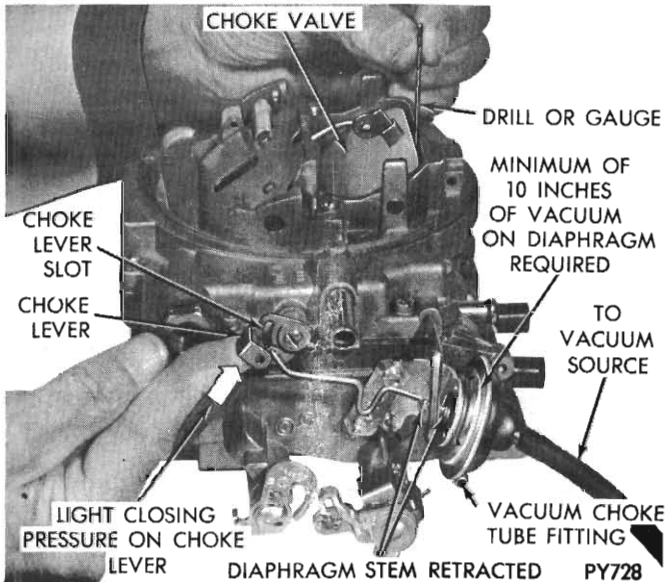

Fig. 12—Checking Choke Vacuum Kick Setting
(1) If adjustment is to be made with engine running, disconnect fast idle linkage to allow choke to close to kick position with engine at curb idle. If an auxiliary vacuum source is to be used, open throttle valves (engine not running) and move choke valve to closed position. Release throttle first, then release choke.
(2) When using an auxiliary vacuum source, disconnect vacuum hose from carburettor and connect it to hose from vacuum supply with a small length of tube to act as a fitting. Removal of hose from diaphragm may require forces which damage the system. Apply a vacuum of 10 or more inches.
(3) Insert specified drill (refer to Specifications Vacuum Kick) between choke valve and wall of air horn (Fig. 12). Apply sufficient closing pressure on lever to which choke rod attaches to provide a minimum choke valve opening without distortion of diaphragm link.